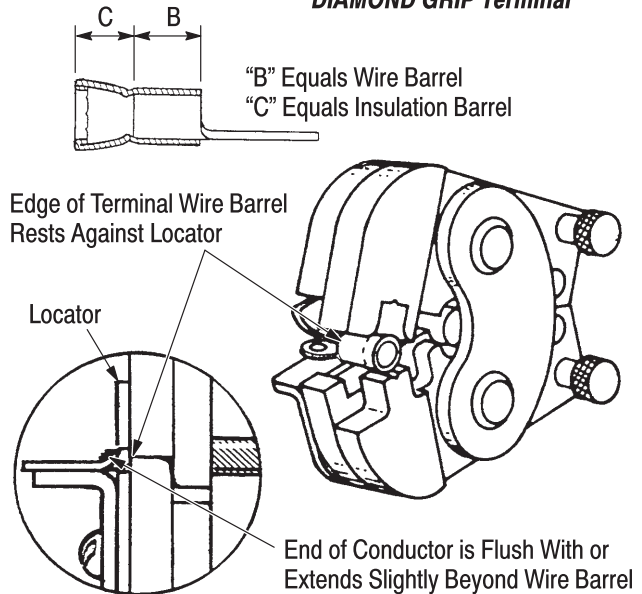

Figure 3
2. Center the terminal or splice wire barrel in the appropriate crimp chamber. See Figure 3
4. Insert stripped wire into terminal until the end of the conductor butts against the locator as shown in Figure 3.
2. Place the terminal or splice in crimping jaws, as shown in Figure 3.
3. Insert **unstripped** wire **only** into the **insulation barrel** of the terminal or splice. See Figure 3 or Figure 4.